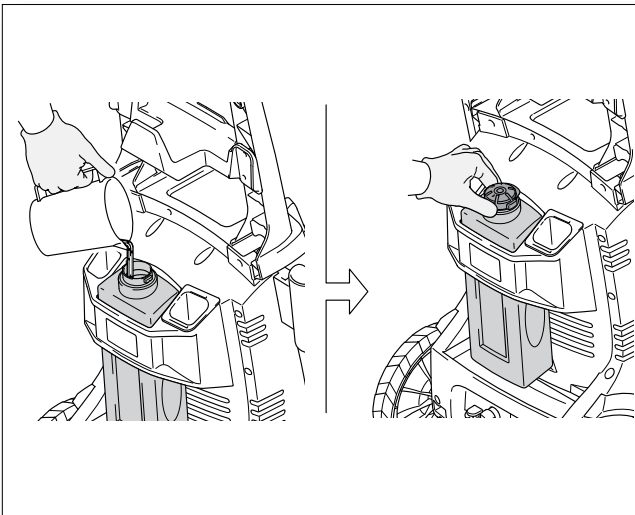

Fig. 13
- When using the detergent, fill it with a properly formulated detergent or cleaner with water ratio according to instructions on the container (**Fig. 13**). The detergent tank comes with a straw which is fitted into the screw-on top. If you don't see the straw, look inside the tank and attach it to the screw-on top, close detergent tank when done filling.